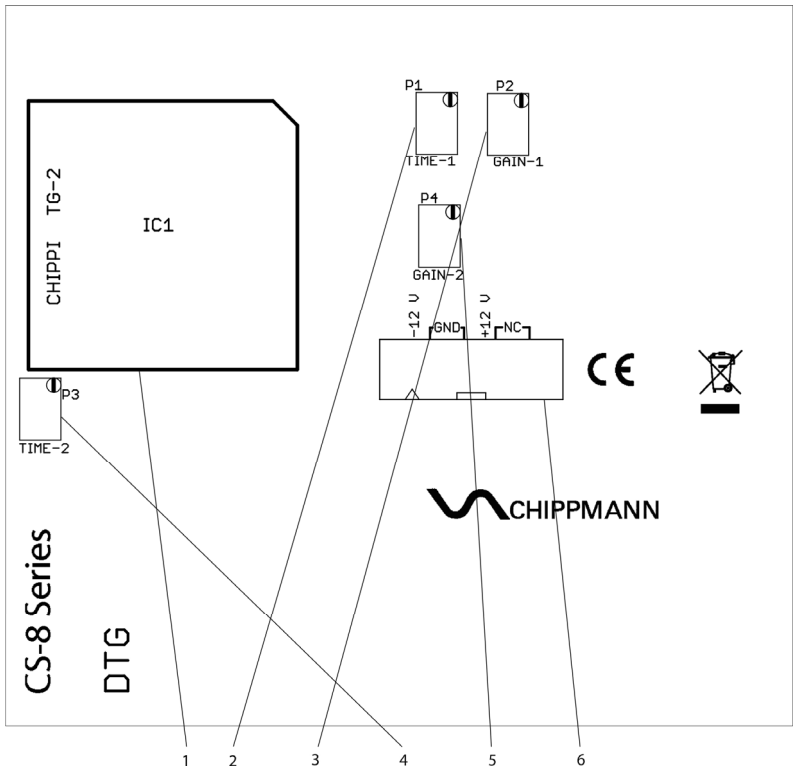

Fig. 2
Fig. 2 shows the back of the module with consecutively numbered elements.
The power connector's (6) pin-out in top view (refer to fig. 2) is assigned as follows:
To hook up power to the module, connect one of the IDC-jacks of the included flat ribbon cable to the connector (refer to fig. 2). Observe guide key for the polarity of the connector in order to avoid pin reversal. The **red tag** of the cable **is to match the triangle-label**.